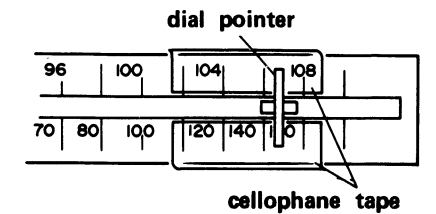

Figure 6-1
1. Stick cellophane tape on the right end of the dial scale plate, as not to get injured the plate. See Fig. 6-1.
3. Move the dial pointer to the right end (Fig. 6-1).